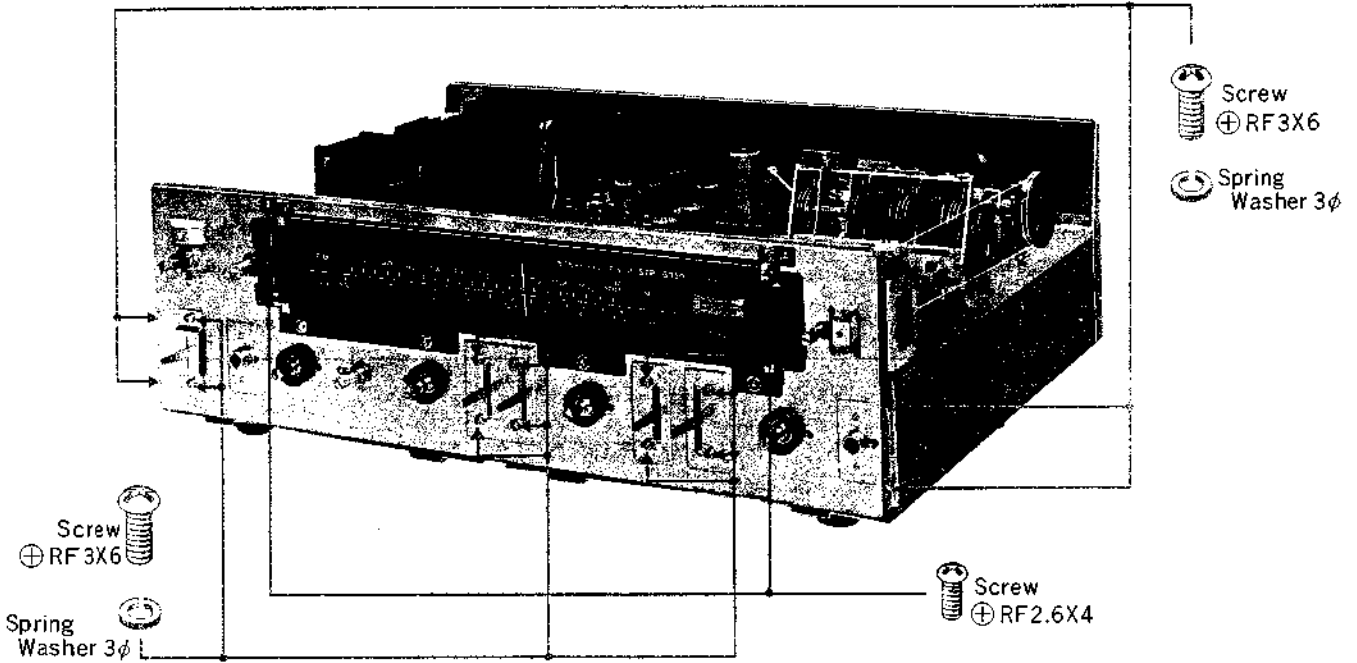

Fig. 2-3 Removal of Front Panel Ass'y (1)
- (b) Loosen off two screws (+RF 3 × 6) at each side of the chassis. See Fig. 2-3.